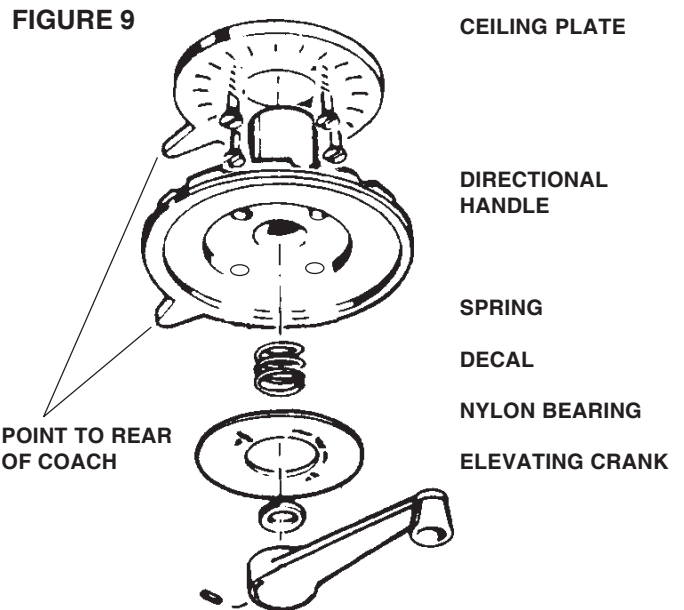

FIGURE 9
STEP 9: Lay ceiling plate on top of **directional handle** with pointers aligned and slide assembly over **rotating base shaft** in ceiling. Make pilot holes in ceiling. **Mount ceiling plate with directional handle in place** with screws provided, Figure 9.
STEP 10: Assemble directional handle, spring, nylon bearing, directional handle decal and elevating crank as shown in exploded view in Figure 9. Remove backing from crank cover decal and press firmly inside directional handle. Slide all parts over elevating shaft and install elevating crank so set screw is on one of the six flat sides of elevating shaft *before* tightening screw.